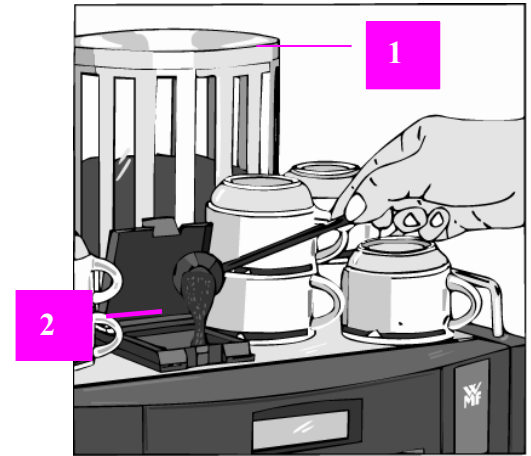

Figure 4
- Drop in 1-2 measuring spoons (**max. 0,7 oz**) of **ground coffee** suitable for the brewing quantity required (see Fig. 4).